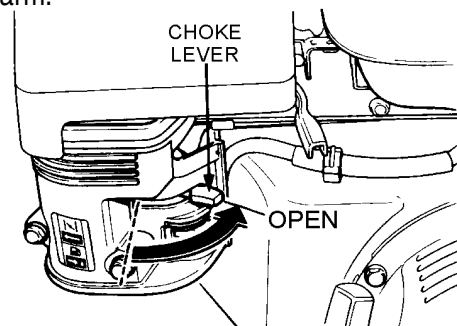

Figure 14. Engine Choke Lever (Open)
4. Place the choke lever (Figure 14) in the "OPEN" position if starting a warm engine or the temperature is warm.